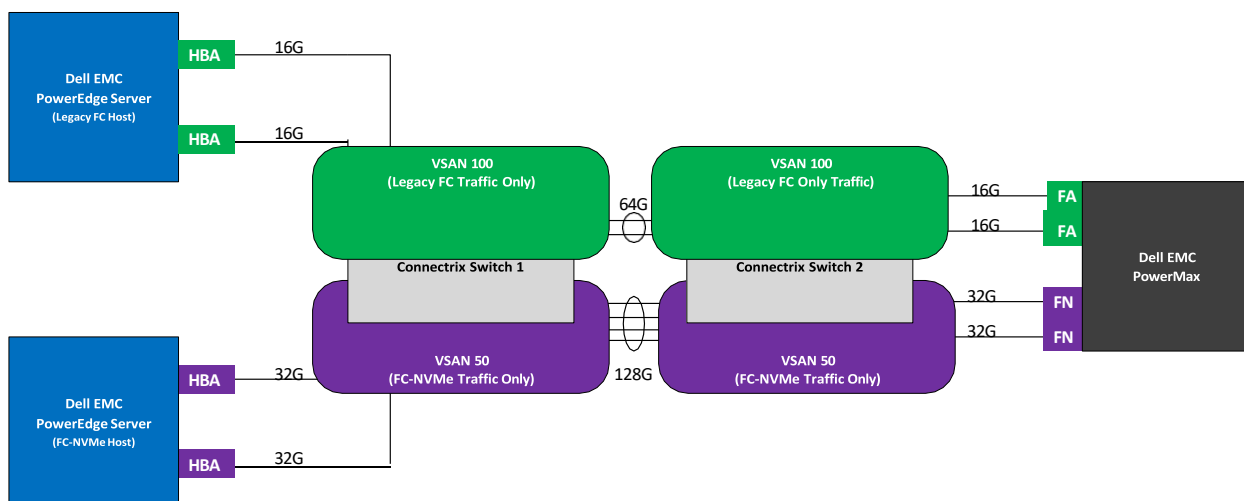

Figure 4
Figure 4 displays our target topology. We are rolling in a new NVMe/FC capable server as well as adding new Fibre Channel NVMe Adapters (FN) on an existing Dell PowerMax. In addition, you can see that we have increased our ISL count by providing dedicated ISL ports for NVMe/FC.